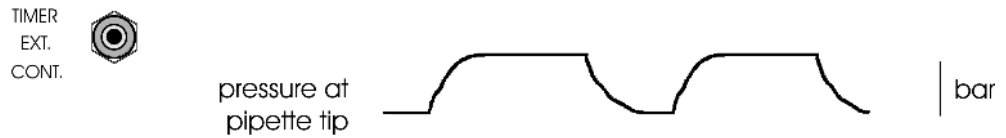

Figure 6: PDES remote control footswitch as 2-channel or single channel version.
- ❑ REMOTE CONTROL with foot switch (option, see Figure 6): The selected operation mode (at the controller) determines the way the REMOTE CONTROL footswitch works.